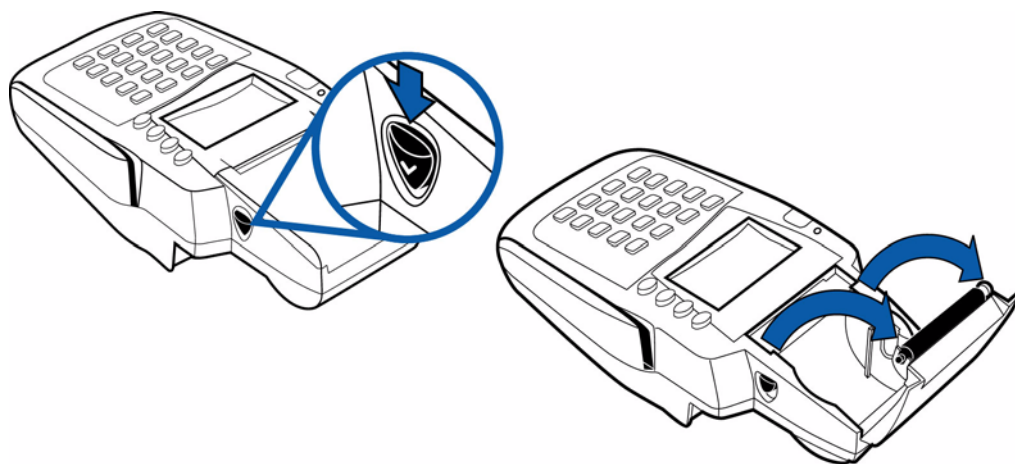

Figure 7 Printer Roll Cover Release Button
- 2 Press the button on the side of the terminal to unlatch the paper roll cover, then rotate the cover up and back (see Figure 7).